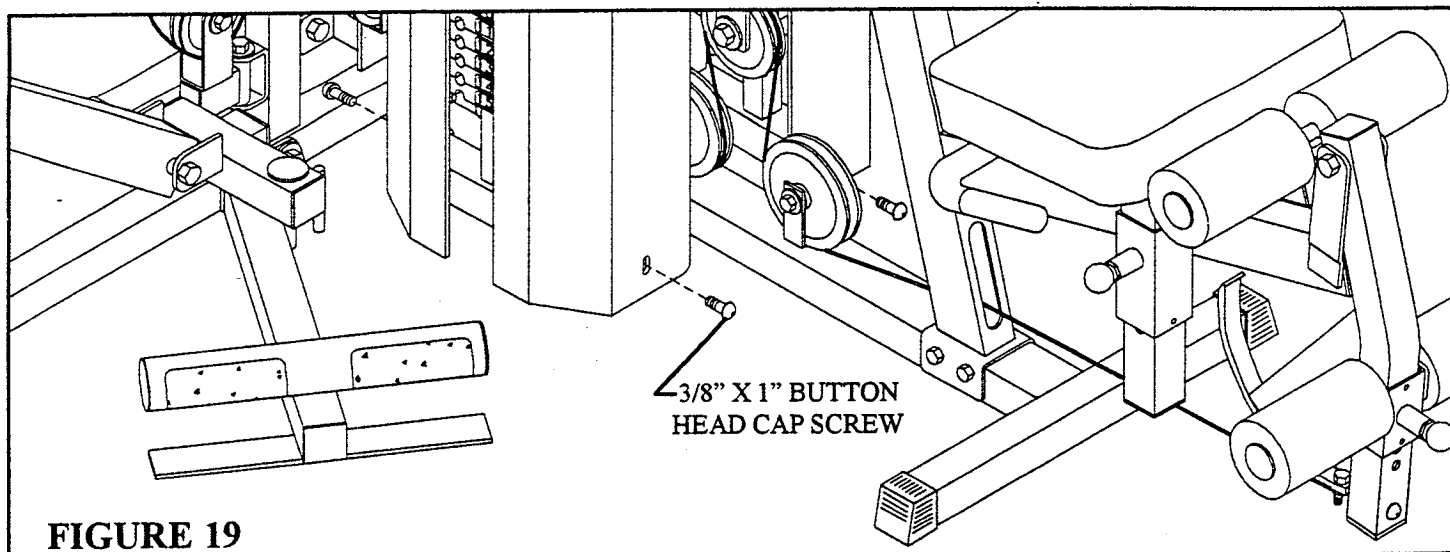

FIGURE 19
- **SECURELY** attach the four previously removed 3/8" X 1" BUTTON HEAD CAP SCREWS from the bottom of the front SHROUD & rear SHROUD. Remove the SHROUDS from the 425103 HOME GYM. See FIGURE 19.